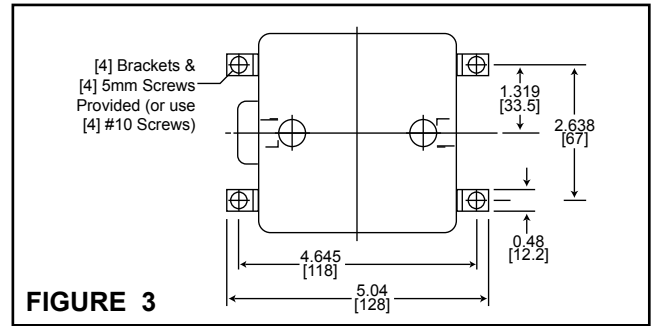

FIGURE 3
2. Secure "EN40" to base using Brackets and M5 Cap Screws provided in parts bag (See Figure 3.)